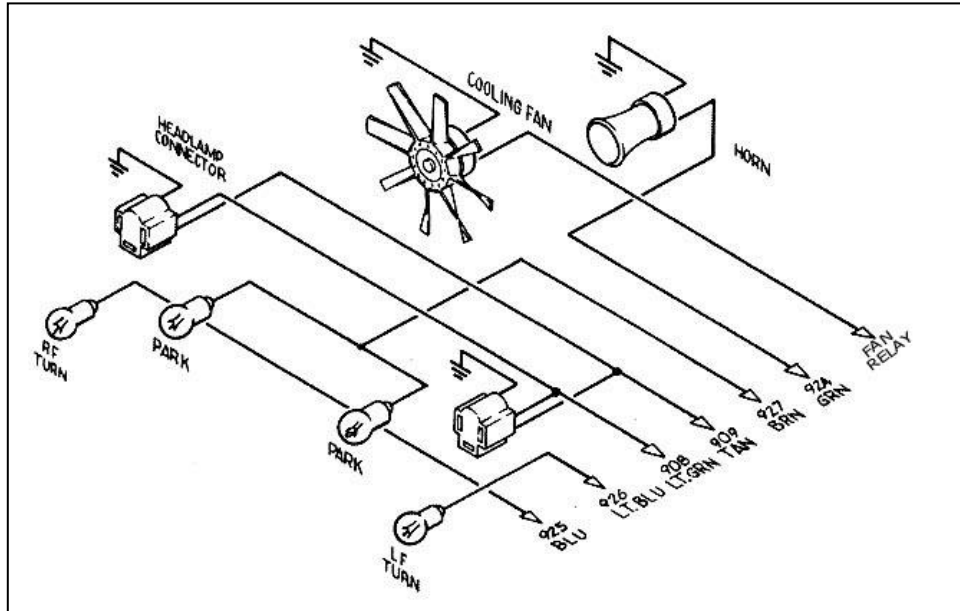

Figure 10-3 HEADLIGHT SECTION A Wiring
10.4 HEADLIGHT SECTION A. See Figure 10-3.
Note: The wire going to the fan in Figure 10-3 will be coming from the fan relay output terminal. Wire #901 (gry/wht) from the ACCESSORY SECTION SWITCHES is an activation wire for the fan relay.